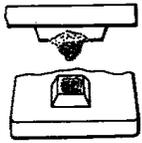
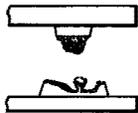

FIG. 23
FIG. 26
5.02 *Buildups:* Buildups assume various forms as shown in Fig. 23 to 26, inclusive, which illustrate some of the types encountered on relays. If necessary, remove buildups as covered in 5.05 to 5.07, and 5.09. Buildups in pits similar to the one on the lower contact in Fig. 26 cannot, however, be removed by this method. In this case, recondition the contact as covered in 5.08. Sharp-pointed buildups similar to the one shown in Fig. 23 may result in the mechanical locking of the contacts in the operated or close positions.
Fig. 23 through 26—Buildups on Relay Contacts